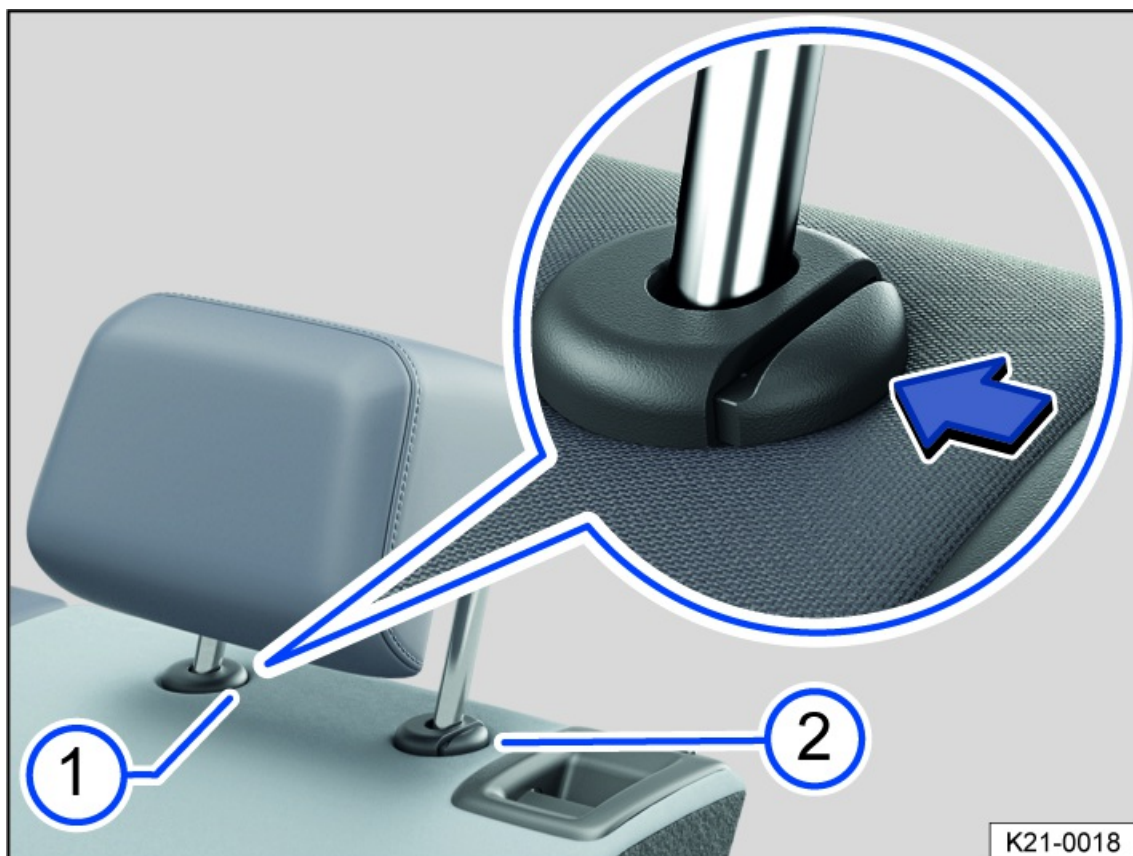

Fig. 74 Removing the middle rear head restraint (general example).
3. Press the button *fig. 74* on the head restraint guide.
4. At the same time, press the button *fig. 74* while a second person pulls the head restraint all the way out.
3. Push the head restraint downward while pressing the *fig. 74* button.